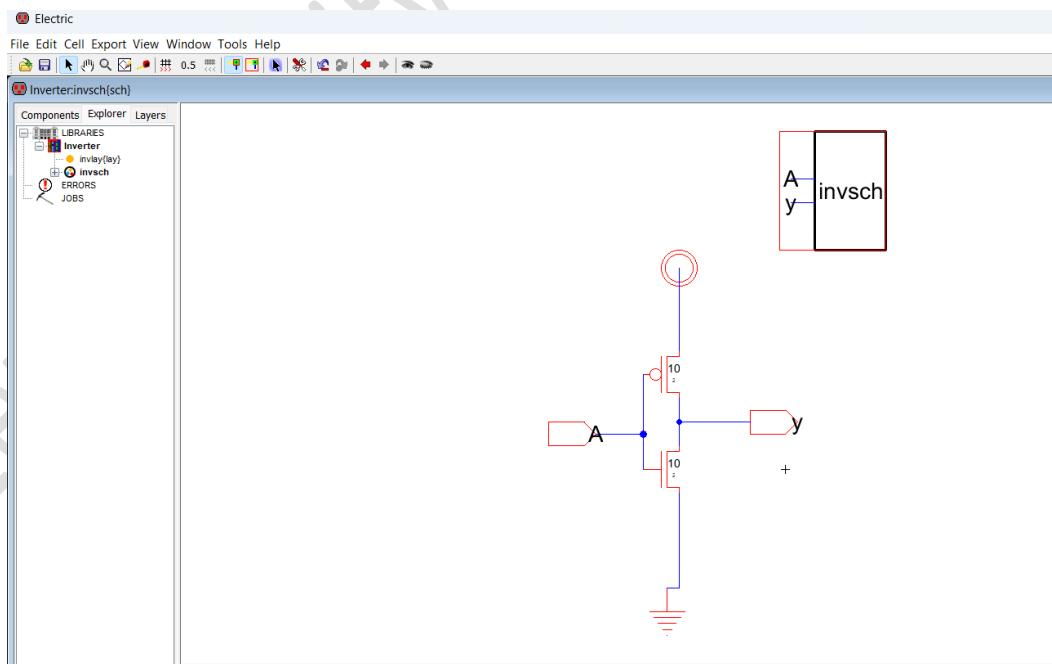

Figure 1.30: The icon from the schematic.
22. To check if the icon has been done, go to Explorer in the left window and see if the invsch(ic) is found. If you click on it, you will see the icon as Figure 1.30 shown